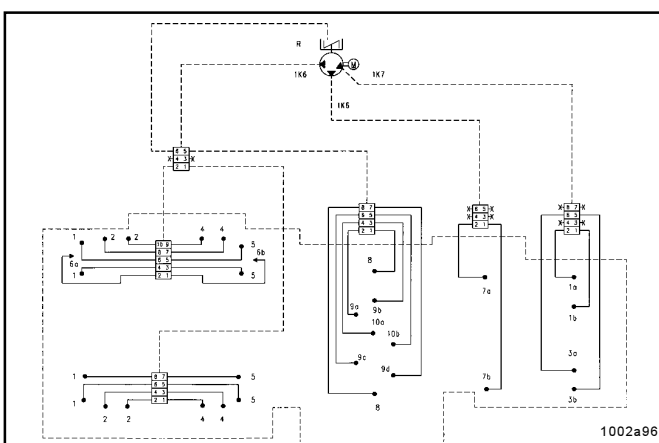
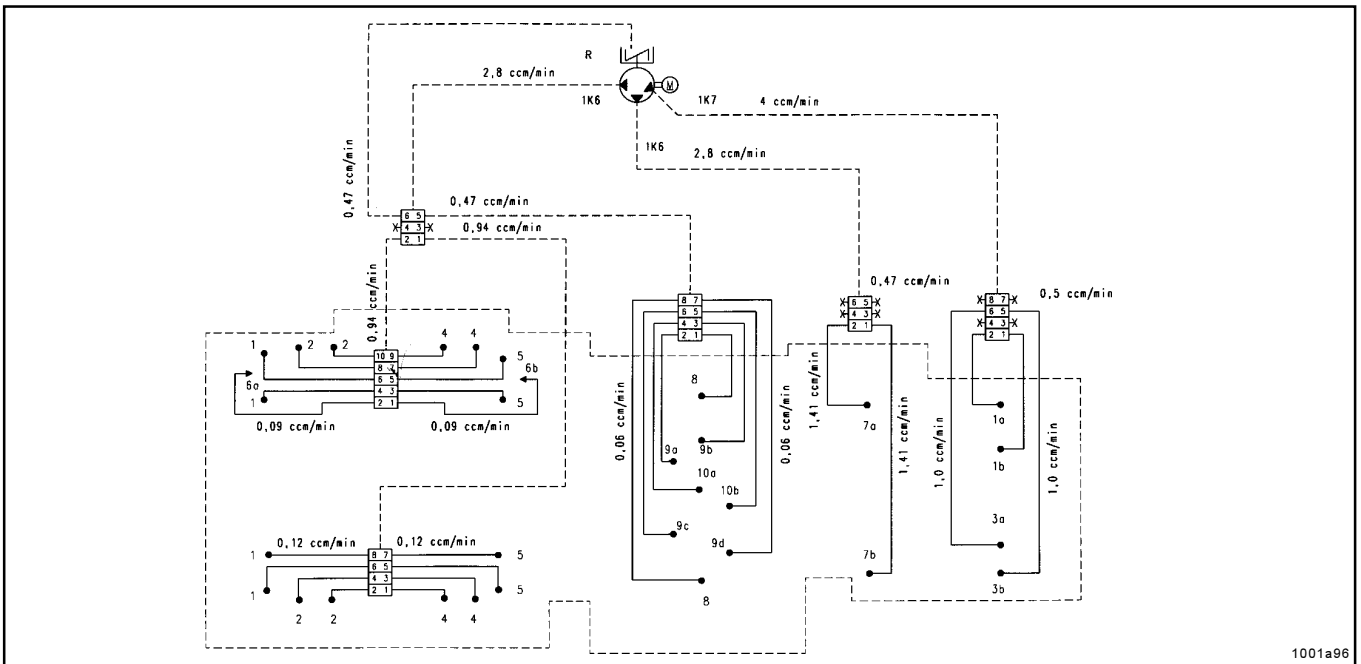

Fig. 41 - Divided lubricant quantity
Fig. 42 - Dividing the lubricant quantity - Calculation example
- Divide the lubricant quantities as shown in the example Fig. 41. Also see the calculation example in Fig. 42.